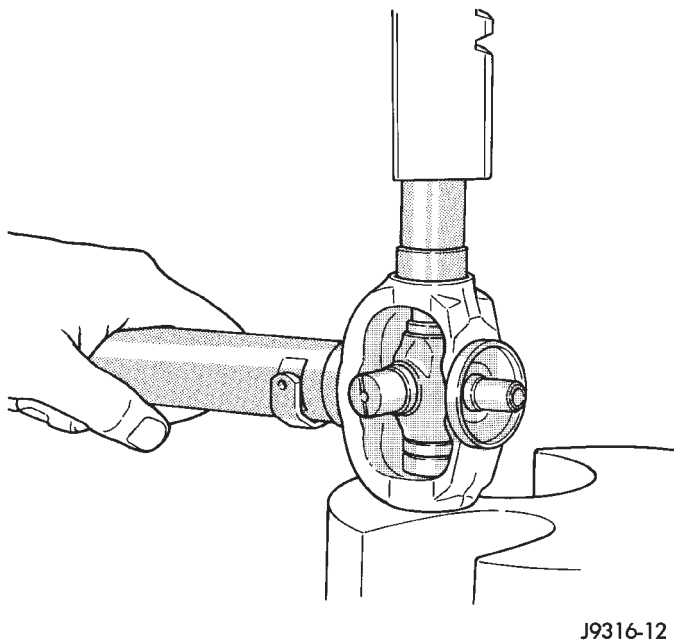

Fig. 29 Press In Bearing Cap
(6) Flip the propeller shaft yoke and install the bearing cap onto the opposite trunnion. Install a snap ring (Fig. 29).